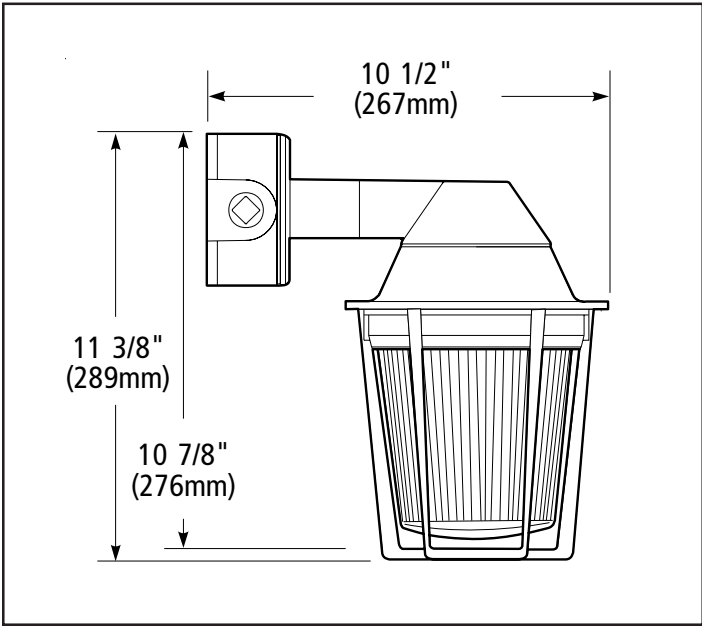

Figure 2. Detail of Bracket Mounting
- Bracket Mount Models** (Figure 2): Remove the outlet box from the end of the mounting bracket. Install the outlet box using appropriate hardware (not supplied) for the mounting surface. Pull the field wiring through the outlet box.